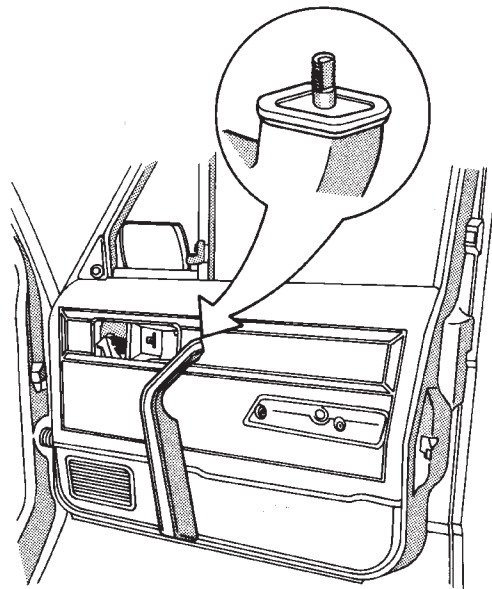

Fig. 3 Armrest Retainer Clip
- (2) Disconnect control linkage and wire harness connector.
- (3) Remove latch release and control panel assembly.
- (4) Remove armrest lower retaining screws.
- (5) Swing armrest downward to a vertical position. This is necessary to disconnect the armrest from the upper retainer clip (Fig. 3).